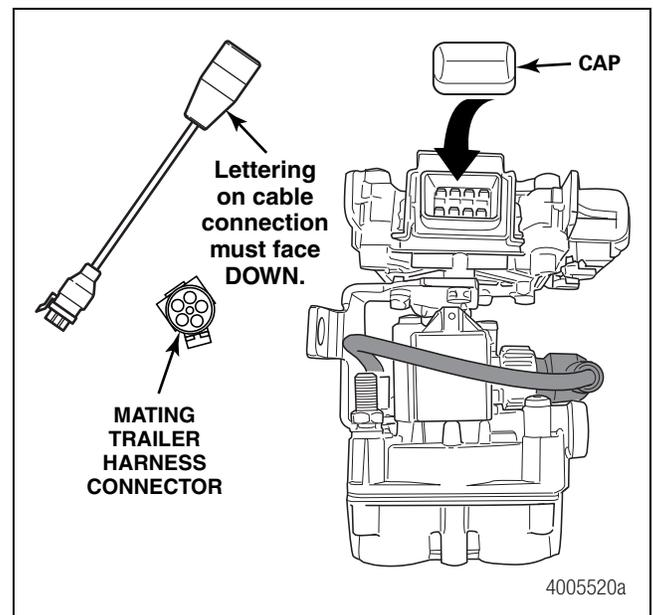

Figure 9
4. Push the hinged power connector retaining clip UP and remove the protective cap from the ECU/single modulator valve assembly. Figure 9.
- **For industry-standard connector cables:** Attach the power cable's round Weather Pack connector to the ABS break-out connector on the trailer power harness. Figure 9.